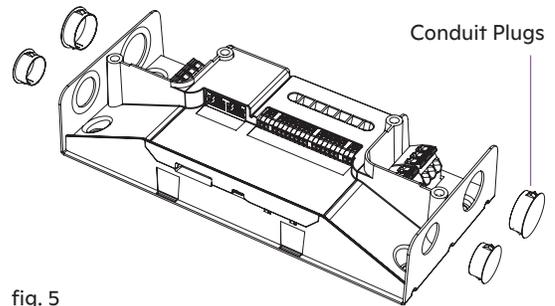

fig. 5
2. Remove plastic plugs from knock-outs as required (see fig. 5).